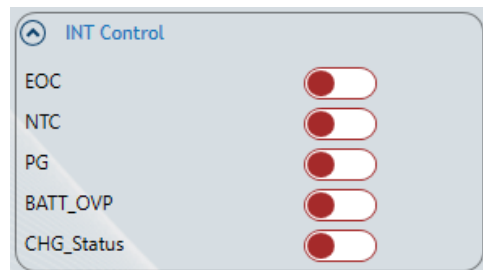

Figure 15: INT Control Setting
11. Figure 15 shows the INT control setting.